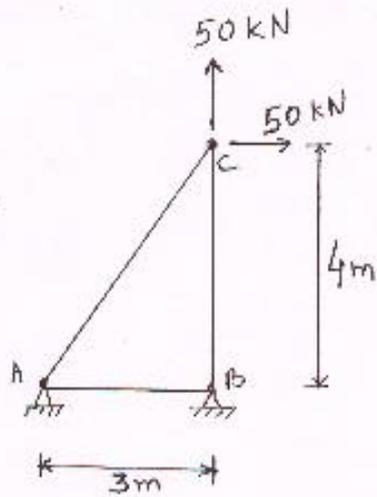

Figure 1
Q.1 (a) Analyse the truss shown in Figure 1, using member approach stiffness method. **14**
Q.5 Analyse the plane truss shown in Figure 1 using flexibility member method **14**